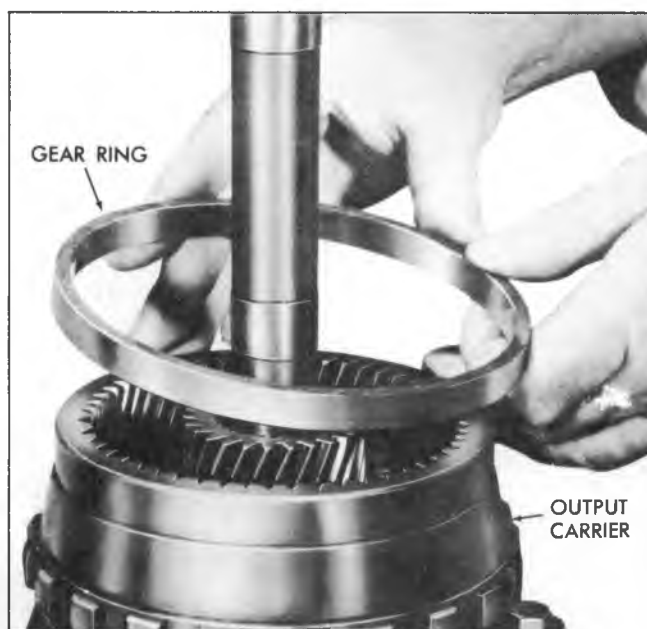

Fig. 120T--Installing Front Internal Gear Ring to Output Carrier
13. Install front internal gear ring over output carrier (fig. 120T).